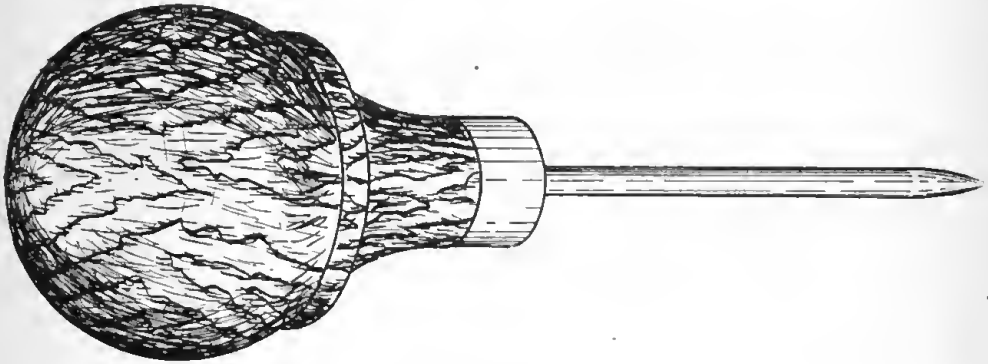

Figure 174. Awl.
(2) The holes in the de-icer boot must be located accurately if the boot is to fit properly. One good method of locating the holes properly is to hold the de-icer boot and fairing strip together and punch the holes directly through the holes in the fairing strip.
(3) The leather punch is made to punch holes in leather, rubber, or cloth. Under no circumstances should an attempt be made to cut holes in metal with it.
h. AWL. An awl is shown in figure 174. This tool is used to line up the holes in the boot with the holes in the fairing strip when attaching a de-icer boot.